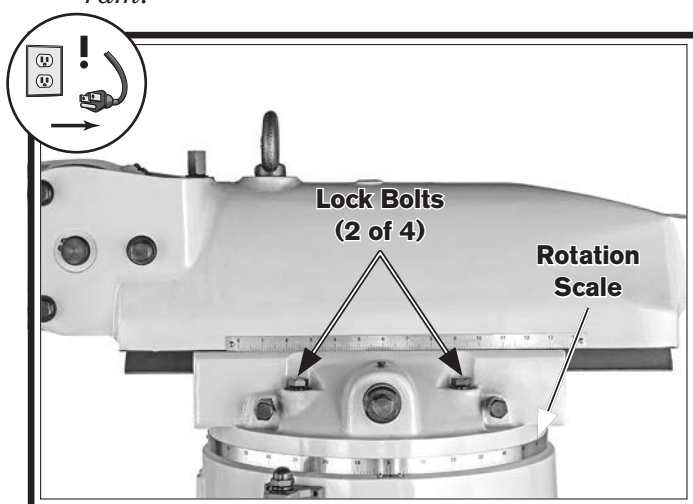

Figure 40. Ram rotating controls.
2. Loosen (4) lock bolts on top of turret (see Figure 40).